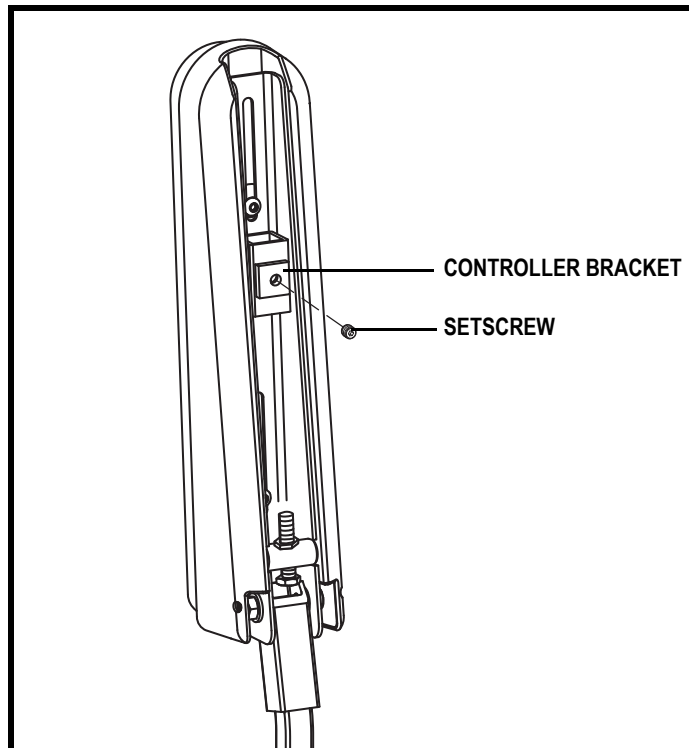

Figure 13. Underside of Armrest
1. Lift the armrest straight up so that it is perpendicular to the floor. See **figure 13**.
You can move the controller in toward or out away from the armrest, or change the position of the controller for either left-hand or right-hand use. See **figure 13**.
2. Loosen the setscrew on the controller bracket. See **figure 13**.
5. Loosen the setscrew on the controller bracket. See **figure 13**.